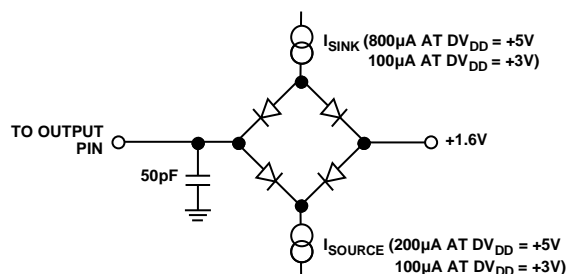

Figure 1. Load Circuit for Access Time and Bus Relinquish Time
- ⁴ These numbers are measured with the load circuit of Figure 1 and defined as the time required for the output to cross the V_{OL} or V_{OH} limits.
- ⁶ These numbers are derived from the measured time taken by the data output to change 0.5 V when loaded with the circuit of Figure 1. The measured number is then extrapolated back to remove effects of charging or discharging the 50 pF capacitor. This means that the times quoted in the timing characteristics are the true bus relinquish times of the part and as such are independent of external bus loading capacitances.